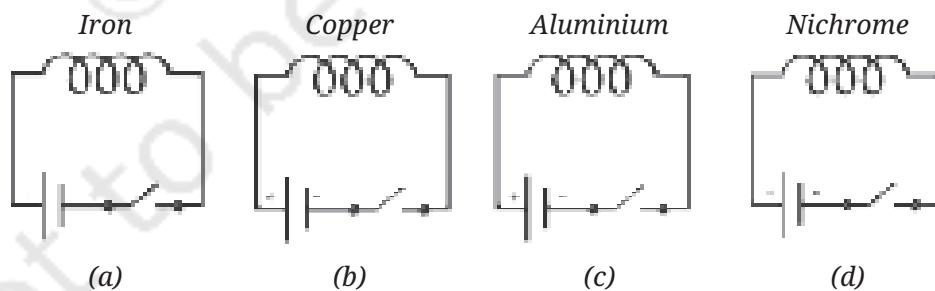

Fig. 4.12
11. We have four coils, of similar shape and size, made up from iron, copper, aluminium, and nichrome as shown in Fig. 4.12.